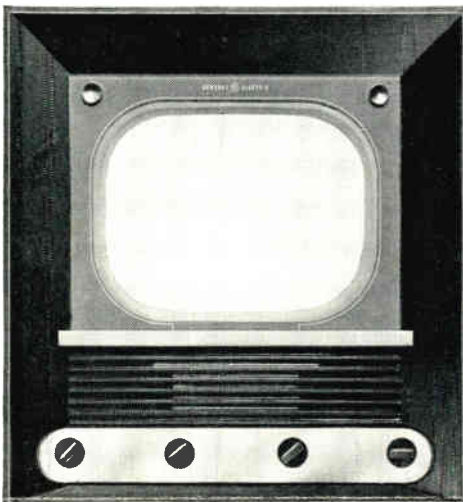
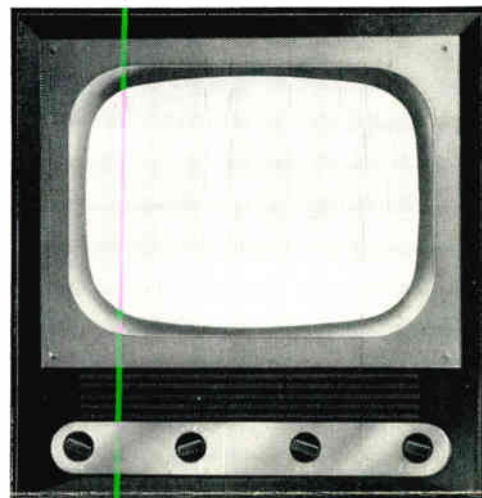

Fig. 1. General Electric sixteen-inch Model 815 before conversion.
Fig. 2. General Electric Model 815 after it had been converted to use a twenty-inch picture tube.
The General Electric Model 815 shown in Fig. 1 was originally a sixteen-inch TV receiver with a relatively small viewing area due to the straight sides of the mask. This receiver was converted to use a 20-inch picture tube as shown in Fig. 2. This model was very easy to convert, and in view of the large size cabinet and well designed chassis a conversion should be recommended whenever possible.
- A hole was drilled in each corner of the new picture tube mask, and the mask was then fastened to the cabinet with oval head wood screws as shown in Fig. 2.